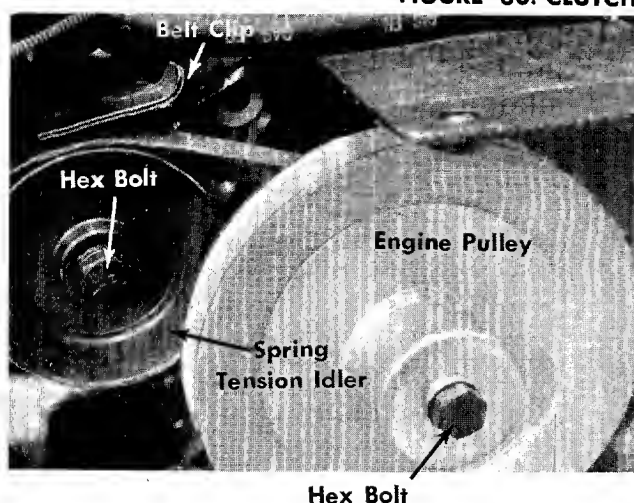

FIGURE 31. ENGINE PULLEY
Step 3. Remove the hex bolt holding the engine pulley to the crankshaft of the engine. Pull the pulley off so the belt can be removed. See figure 31.